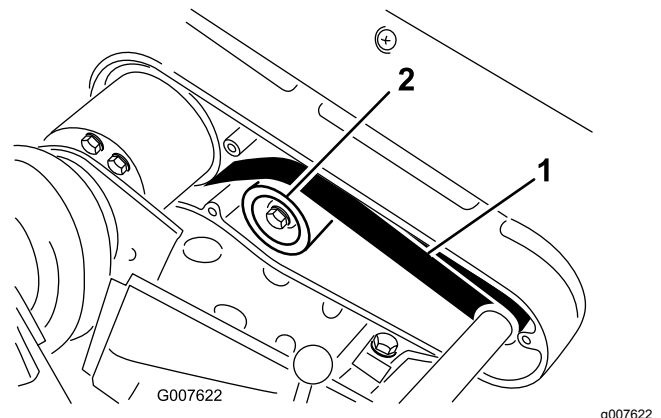

Figure 45
2. Check the tension by pressing the belt at mid span of the pulleys (Figure 45) with 22 to 26 N (5 to 6 lb) of force.
- A. Loosen the idler pulley mounting nut and pivot the idler pulley clockwise against the backside of the belt until the desired belt tension is attained (Figure 45).